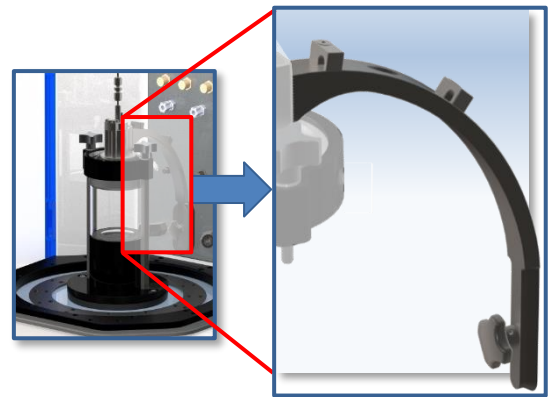

Figure 5-2: Spray Nozzle Arm
5.1.2 Figure 5-2 shows the Nozzle Arm.
- 5.2.3 Locate and identify the Atomizer Base Vessel Holder baseplate as shown in Figure 5.2 (Resodyn Part Number: 104225), which will include the two vertical support standoffs attached, and position over the appropriate mounting holes in the resonator plate surface. Secure to the resonator plate